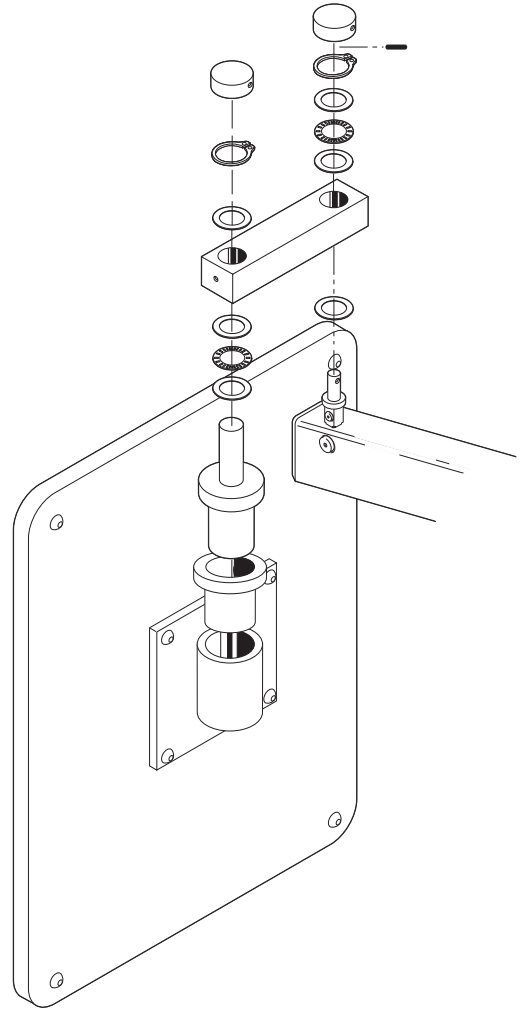

Figure 1. Mount Bearing Stack
See Figure 1
1. Insert the flex arm knuckle through the hole in the short mounting bar and install using the hardware shown in Figure 1.